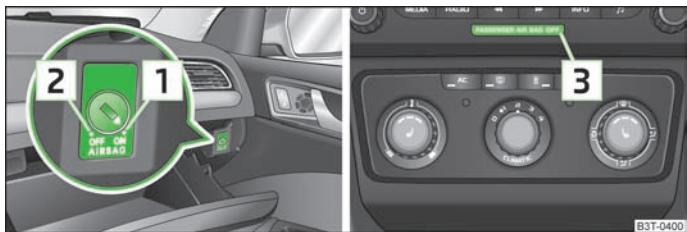

Fig. 149 Storage compartment: Switch for the front passenger airbag/indicator light for the deactivated front seat passenger airbag
- › Switched off airbags are indicated in the middle of the dash panel by the indicator light **OFF** in the display **PASSENGER AIR BAG OFF** coming on » Fig. 149.
- › Use the key to turn the slot of the key switch into the position **2** (OFF) » Fig. 149.
- › Check whether the airbag indicator light **OFF** in the display **PASSENGER AIR BAG OFF** in the middle of the dash panel lights up when the ignition is turned on » Fig. 149 **3**.
- › Use the key to turn the slot of the key switch into the position **1** (ON) » Fig. 149.
- › Check whether the airbag indicator light **OFF** in the display **PASSENGER AIR BAG OFF** in the middle of the dash panel does not light up when the ignition is turned on » Fig. 149 **3**.
The airbag indicator light is located in the middle of the dash panel » Fig. 149 **3**.